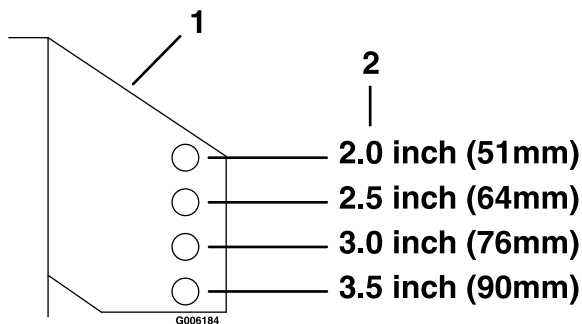

Figure 12
6. Adjust the anti-scalp rollers for the normal operating conditions. Place rollers in one of the positions shown in Figure 12. Rollers will maintain 3/4 inches (19 mm) clearance to the ground to minimize gouging and roller wear or damage.